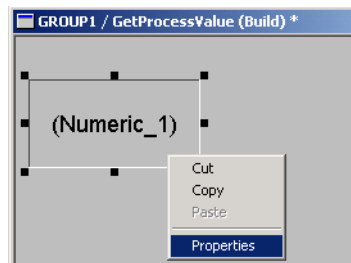

Figure 18. Displaying the Properties Dialog
- b. Right click on the selected display element to display the context menu, then choose **Properties**, Figure 18.